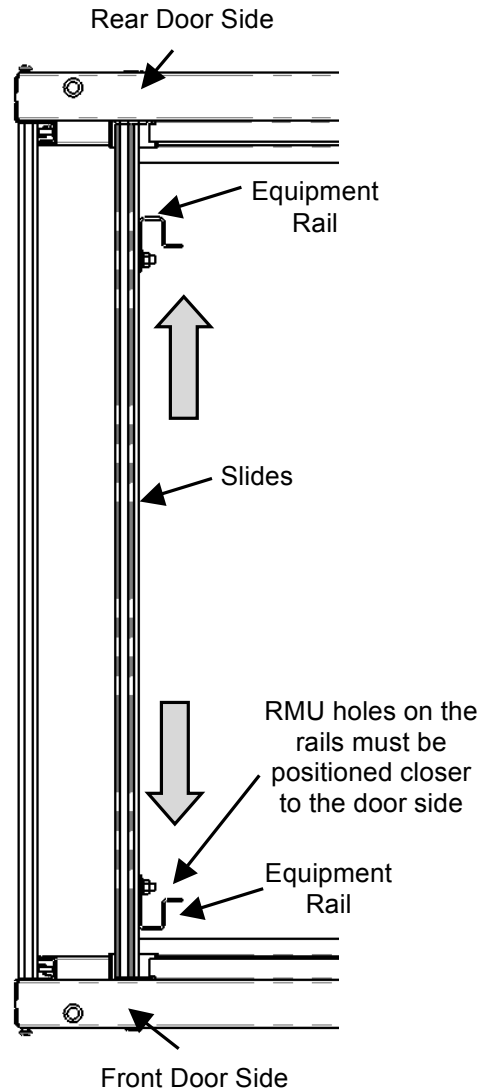

Fig. 3
1. Position Equipment Rail as shown (Fig. 3).